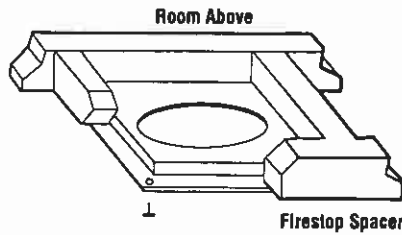

Figure 21
**Step 3.** Position appropriate firestop spacer at ceiling and nail temporarily with two (2) 8d nails. Use flat firestop spacer, Model F10FS-2, if chimney penetrates ceiling vertically. If chimney penetrates ceiling at 30° angle (offset chimney), use 30° firestop spacer, Model F10FS30-2. Use one nail on opposite sides to hold firestop spacer in position. Nail permanently, using at least two (2) more 8d nails, after chimney sections have been assembled through the firestop spacer and after any necessary adjustments have been made. Firestop spacer must be secured by at least four (4) 8d nails when completely installed.
**Note:** If there is a room above ceiling level, firestop spacer must be installed on the bottom side of the ceiling. If an attic is above ceiling level, firestop spacer must be installed on top side of ceiling joist (Figures 21 and 22).